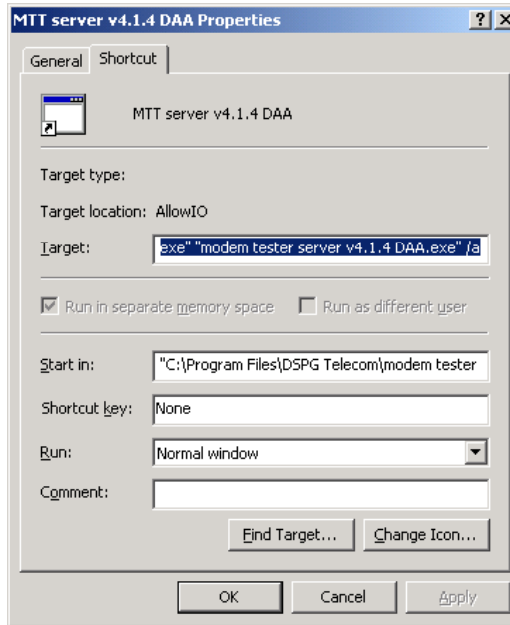

Figure 18: MTT server v4.1.5 DAA Properties Window.
- 1.4. Select the “Shortcut” tab as it is shown in the **Figure 18**
- 2.4. Select the “Shortcut” tab as it is shown in the **Figure 18**.